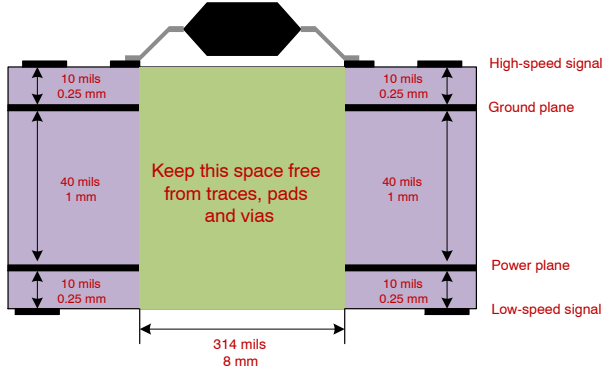

Figure 51. Recommended Layer Stack
- To ensure isolation performance between the primary and secondary side, any PCB traces or copper should not be placed under the driver device as shown in Figure 51. A PCB cutout is recommended to avoid contamination that may impair the isolation performance of NCV51153.